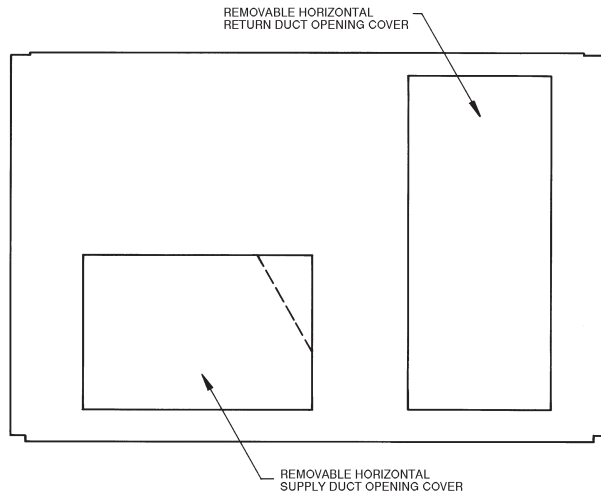

Fig. 9 — Horizontal Conversion Panels
Step 7 — Convert to Horizontal and Connect Ductwork (When Required) — Unit is shipped in the vertical duct configuration. Unit without factory-installed economizer or return air smoke detector option may be field-converted to horizontal ducted configuration using accessory CRDUCTCV002A00. To convert to horizontal configuration, remove screws from side duct opening covers and remove covers. See Fig. 9.